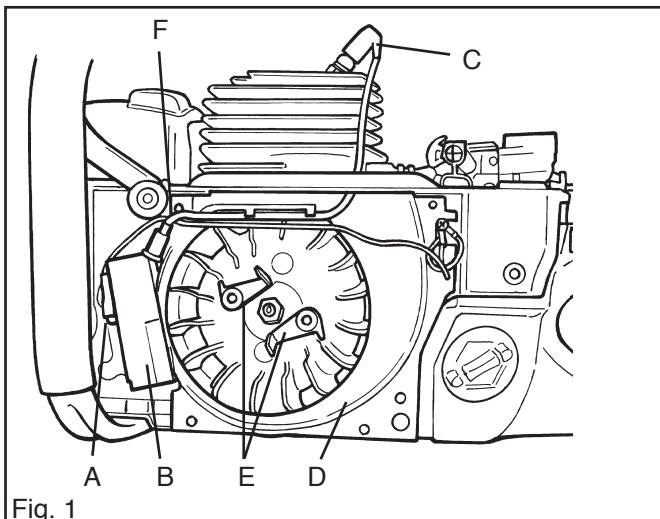

Fig. 1
2. Release the blue lead (A) (which connects to the stop switch) from the ignition module (B). See fig. 1.
3. Remove the HT lead (C) from the spark plug, release both leads from the cable guide (D) and lift out the cable guide. See fig. 1.
4. Undo the two M4-bolts and remove the ignition module (B). See fig. 1.
5. Undo and remove the two pawls (E) for the recoil starter. See fig. 1.
7. Fit the cable guide (D) and press in the HT lead into place. Remove the piston stop and connect the HT lead to the spark plug.
8. Pull out the blue lead, thread it under the HT lead at F and push home the cable clip onto the ignition module. See fig. 1.
9. Press the blue lead into the groove in the cable guide. See fig. 1.
10. Attach the pawls (E) for the recoil starter. See fig. 1.